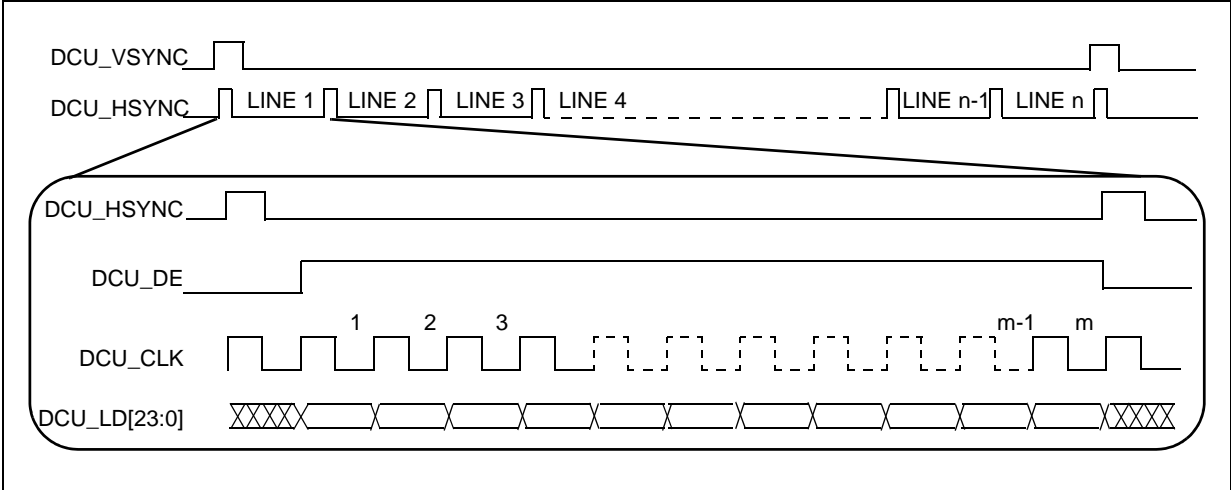

Figure 29. TFT LCD interface timing overview1
Figure 29 depicts the LCD interface timing for a generic active matrix color TFT panel. In this figure signals are shown with positive polarity. The sequence of events for active matrix interface timing is:
1. In Figure 29, the “DCU\_LD[23:0]” signal is an aggregation of the DCU’s RGB signals—DCU\_R[0:7], DCU\_G[0:7] and DCU\_B[0:7].